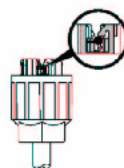

Fig 1
3. Snap the cores into the marked (1, 2, 3,...) core entry (see fig 1).